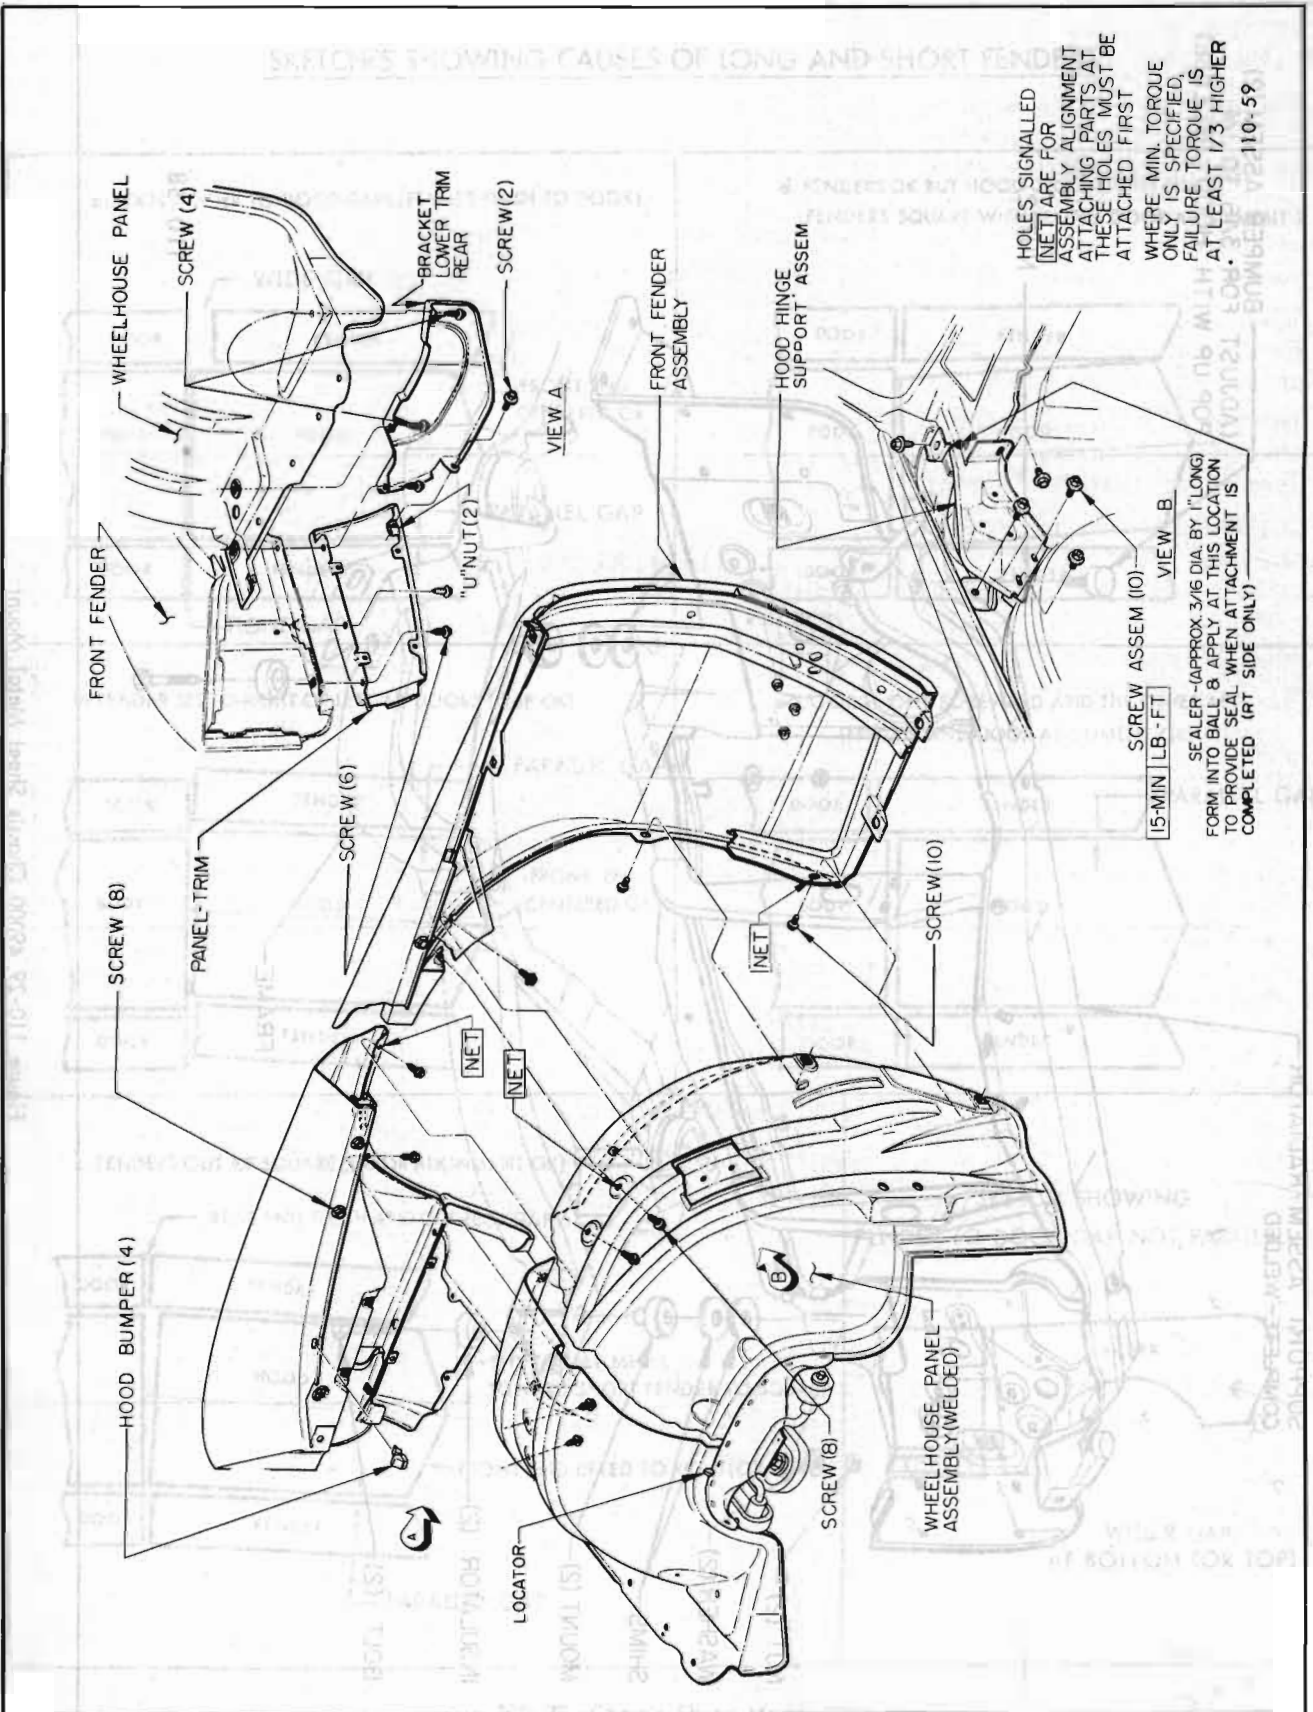

Figure 110-30 49000 Fender and Skirt, Hood Hinge Support
20. Skirt can now be removed from fender by removing skirt to fender attaching bolts. See Figure 110-30.